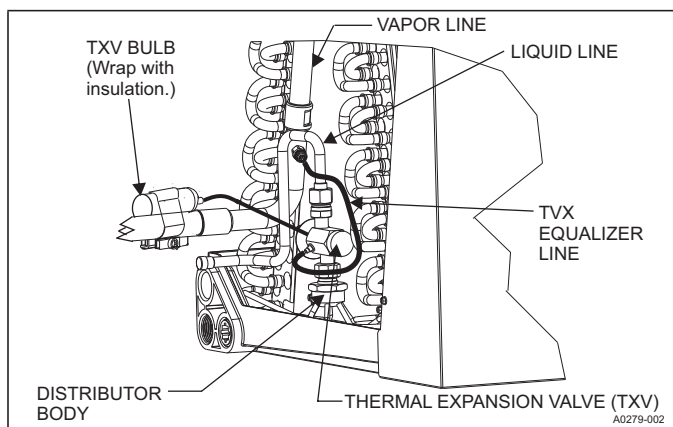

FIGURE 18: TXV Bulb and Equalizer line Installations
5. Slide the nut removed in step 3 over the supplied liquid line. Place supplied Teflon washer from TXV kit in place on TXV, and install liquid line to the top of the thermal expansion valve. Adjust assembly so liquid line aligns with hole in access panel. See Figure 18. Hand tighten the liquid line, and apply an additional 1/4 turn to seal.
6. Install the TXV equalizer line onto the vapor line by hand tightening the 1/4" SAE coupling nut to the equalizer fitting, and apply an additional 1/3 turn to seal. See Figure 18.
8. Install the TXV bulb to the vapor line near the cabinet, using the bulb clamp(s) furnished with the TXV assembly. Ensure the bulb is making maximum contact. See Figures 18 & 19, and accomplish the following: